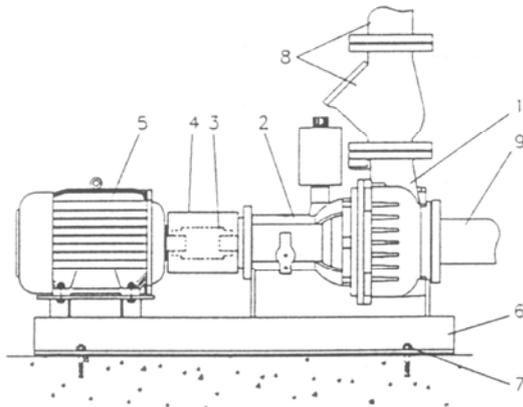

Fig. 7.1
See fig. 7.1
- - fixation of the base plate to the floor, see fig. 7.1 pos. 7
Remove the protection hood, (see fig. 7.1 pos. 4).